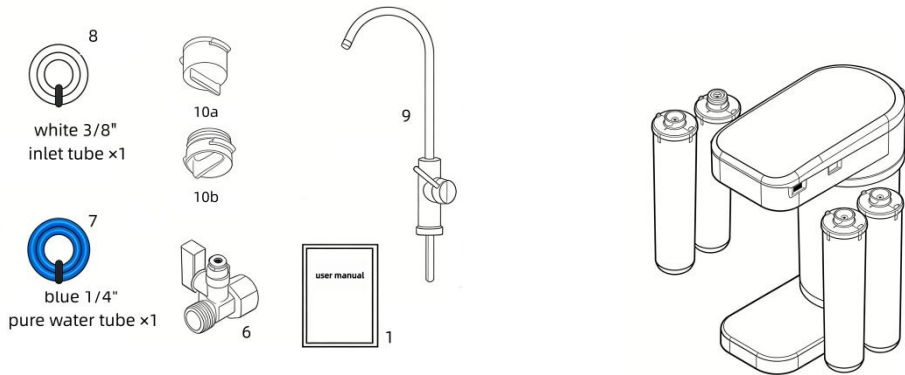

Figure 1. Product Assembly Diagram
- Remove the service cover located under the top cover of the water purifier (Fig. 1; pos. 10b).